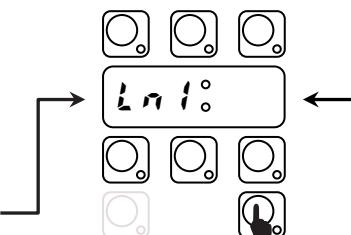
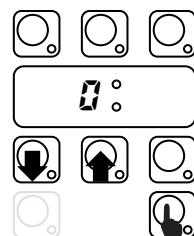

Fig. 46 Wash duration [min].
Fig. 47 Change value &
- Press CYCLE\_INFINITE. The display shows alternatively the symbol  $\text{Ln } 1^\circ$  (Figure 46) and the corresponding value  $0^\circ$  (Figure 47);
- Use CYCLE\_1 key to increase the value and CYCLE\_2 key to decrease (Figure 47);